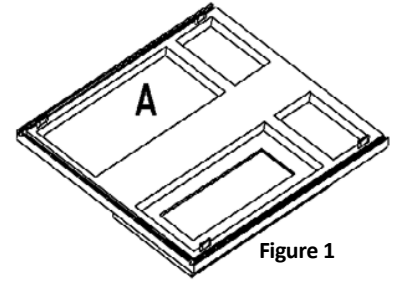

Figure 1
1. Place the face frame (A) face down on a flat soft working surface to ensure that the face is not scratched or damaged. (Figure 1).